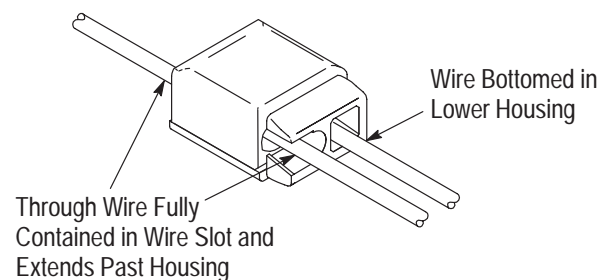

Figure 2
2. Insert the wires into the wire holes until the wires bottom in the lower housing (refer to Figure 2, Detail A); except for half-tap connectors, insert the wires into the wire hole and wire slot making sure that the through wire is fully contained in the wire slot and extends past the housing (see Figure 2, Detail B).